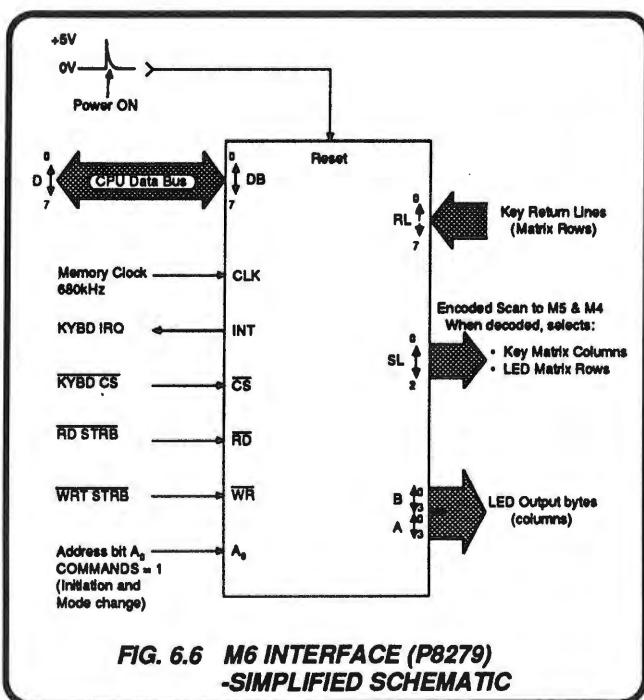

FIG. 6.6 M6 INTERFACE (P8279)
6.2.2 PROGRAMMABLE INTERFACE M6 (Fig. 6.6)